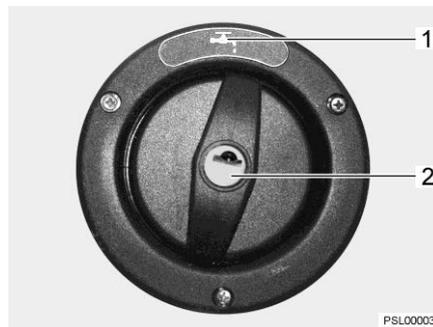

Fig. 137 Cap for the drinking water filler neck
The drinking water filler neck is indicated by the symbol "1" (Fig. 137,1). The cap is opened and closed using the key for the external flap locks.
- Insert key into locking cylinder (Fig. 137,2) and turn a quarter turn in an anticlockwise direction.